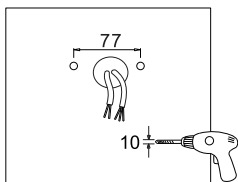

Figure 14
Step 1: Drill holes on the wall as shown. (Figure 14)